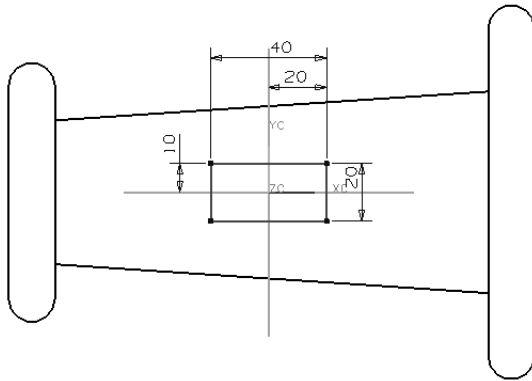

Figure 11-94 The sketch drawn for creating the extruded feature
2. Create the sketch for the second feature by selecting the offset plane as the sketching plane, as shown in Figure 11-94.